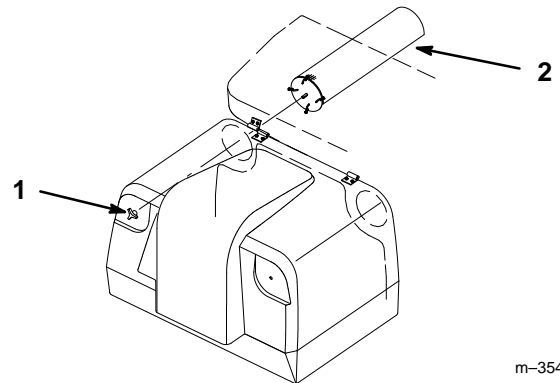

Figure 27
2. With the door open, remove the knobs at the upper front of the hopper and slide the screens out the rear of the hopper (Fig. 27).
4. Replace the screens and secure with knobs (Fig. 27). Close and latch the hopper door.